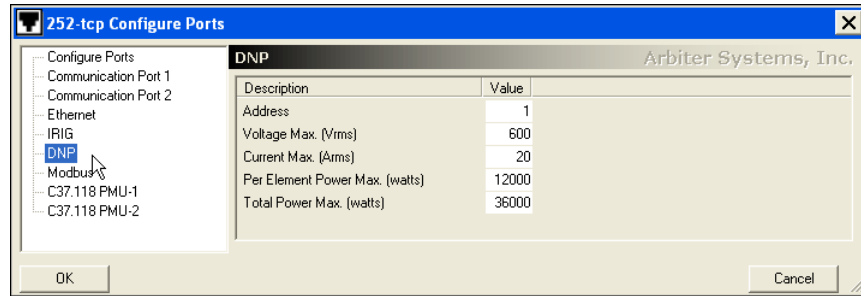

Figure 7.7: Configuring DNP Settings
3. Configure DNP scaling values from the same (Configure Ports) window, however move down the list on the left panel and select DNP. This will open another panel for DNP Settings. See Figure 7.7 for details on DNP Settings. Choose appropriate values and click OK.